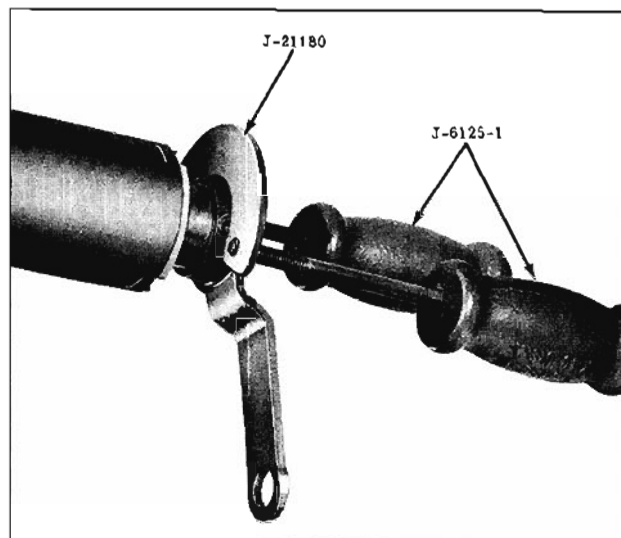

Fig. 8-106 Removing Shift Tube
4. Remove the shift tube from the lower end of the mast jacket using Tool J-21180 and two Slide Hammers J-6125. (Fig. 8-106) On 30, 31 and 32 series, the shift tube can be removed by tapping the shift lever with a plastic hammer.